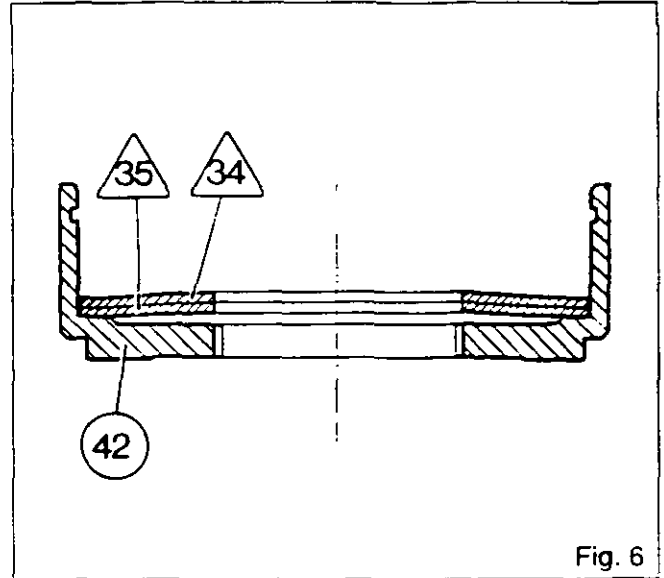

Fig. 6
37. Position the Belleville washers /35\ and /34\ in the drum (42) (Fig. 6).
38. Lubricate and fit the O-ring (33) on the hub (40).
39. Position the hub (40) in the drum (42) up against the Belleville washers.
40. Fit the outer plates (36) and inner plates (37) alternatively, aligning the lugs and fit the cover (38).